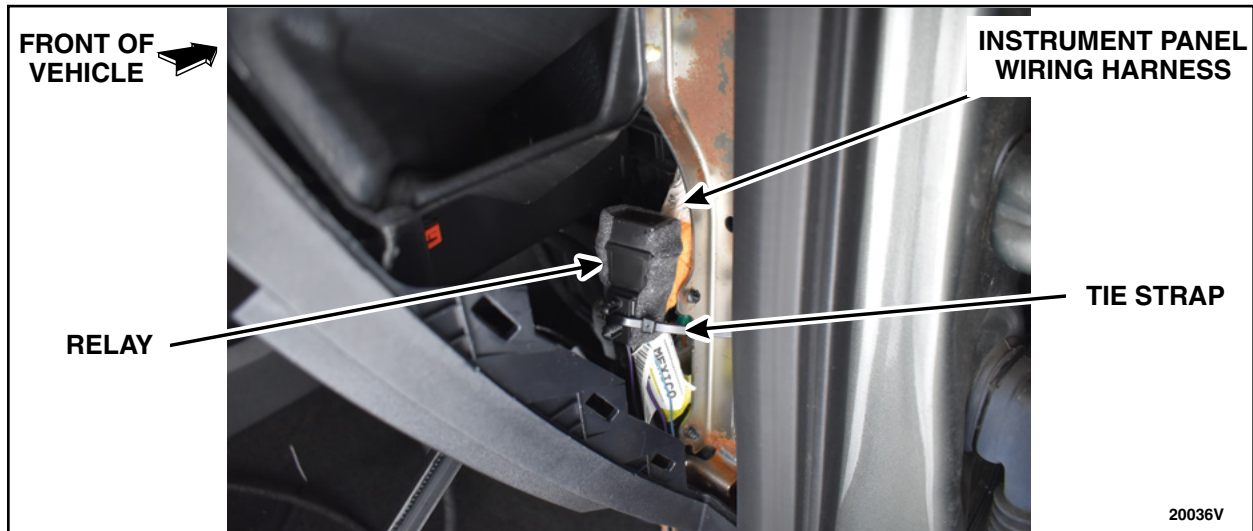

FIGURE 23
41. Place the relay, included in the kit, onto the instrument panel wiring harness and secure using a tie strap. See figure 23.